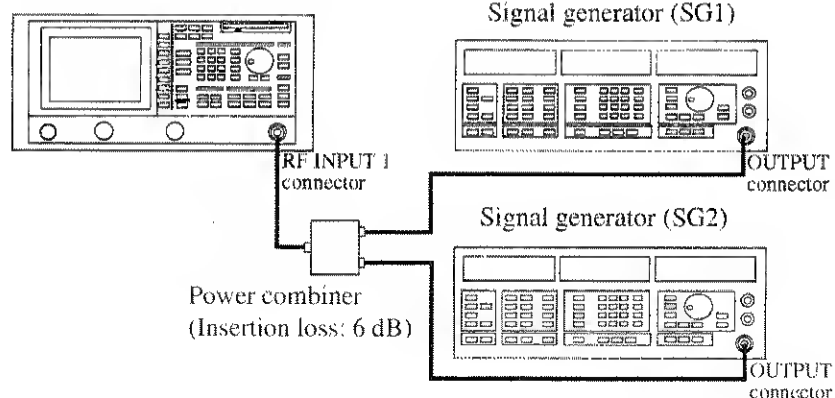

Figure 2-39 Setup for Measuring Intermodulation
1. Connect the signal generators as shown in Figure 2-39.